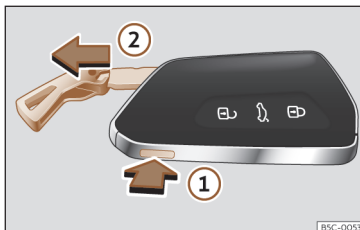

Fig. 63 Vehicle key: remove the key shaft.
- Press the >>> **Fig. 63** ① button to release the ring from the key fob and remove the key blade ②. Pressing lightly on the ring leaves it fixed as a key fob.
- Press the >>> **Fig. 63** ① button to unlock. Press and hold button ① and at the same time pull on the ring in the direction of arrow >>> **Fig. 63** ② to completely remove the key shaft.